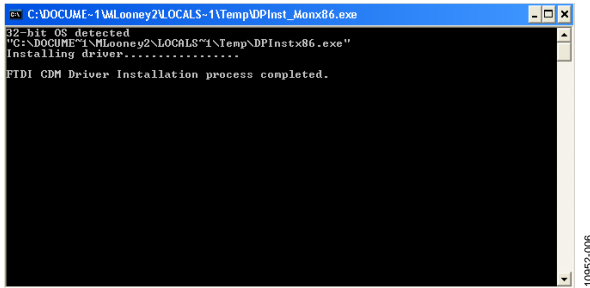

Figure 6. CMD Window
2. A CMD window opens automatically to install the drivers and should finish by displaying this message shown in Figure 6.